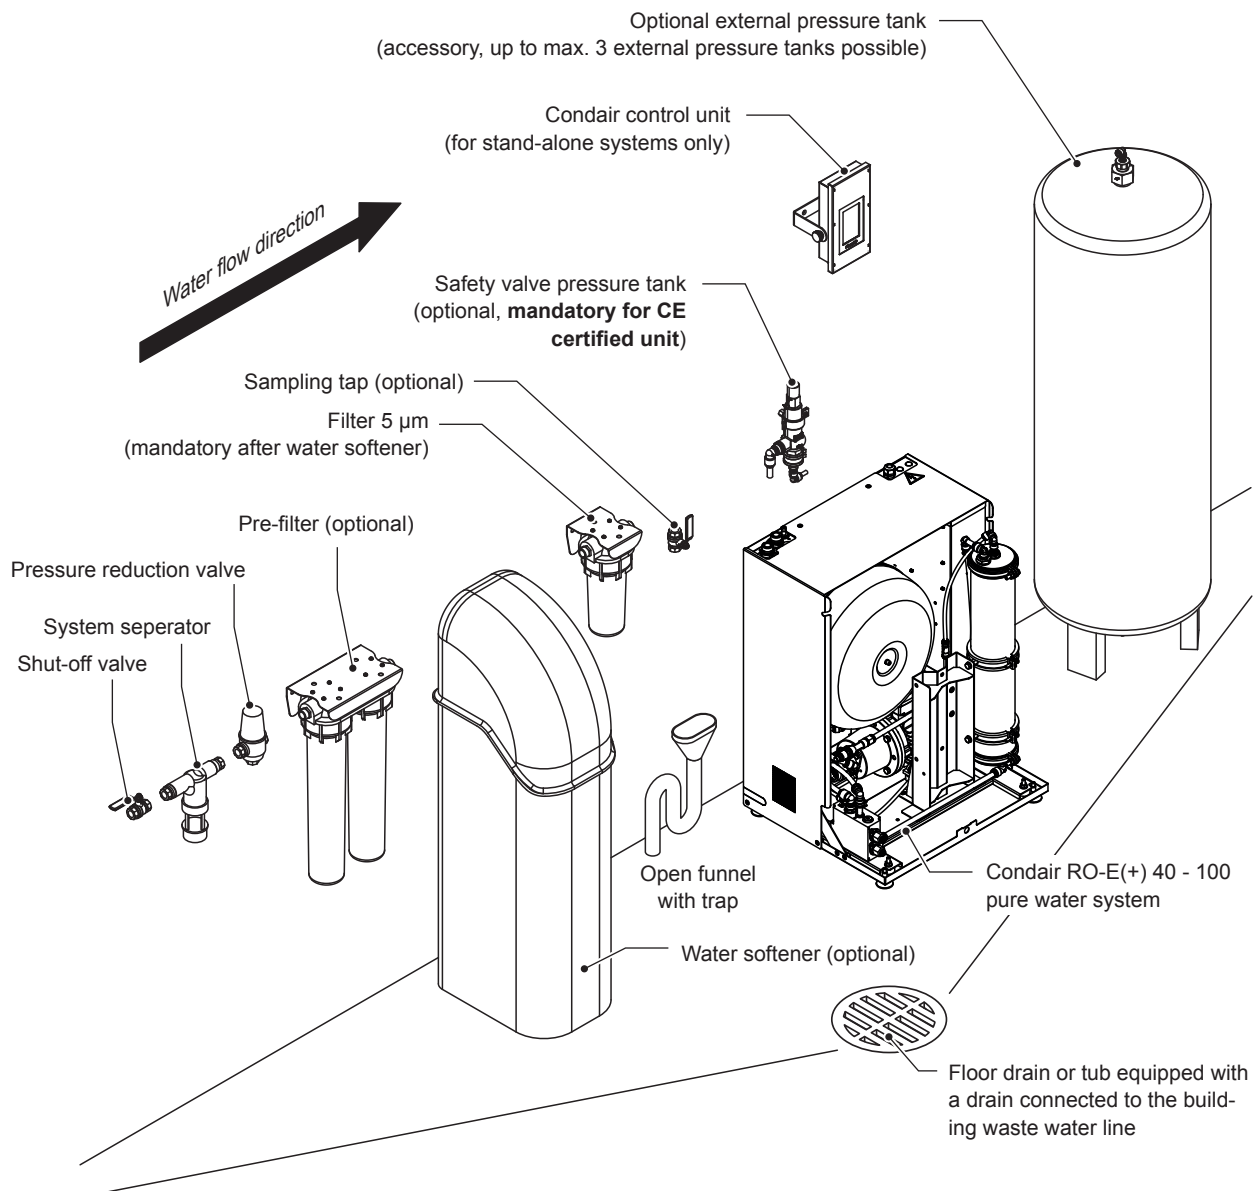
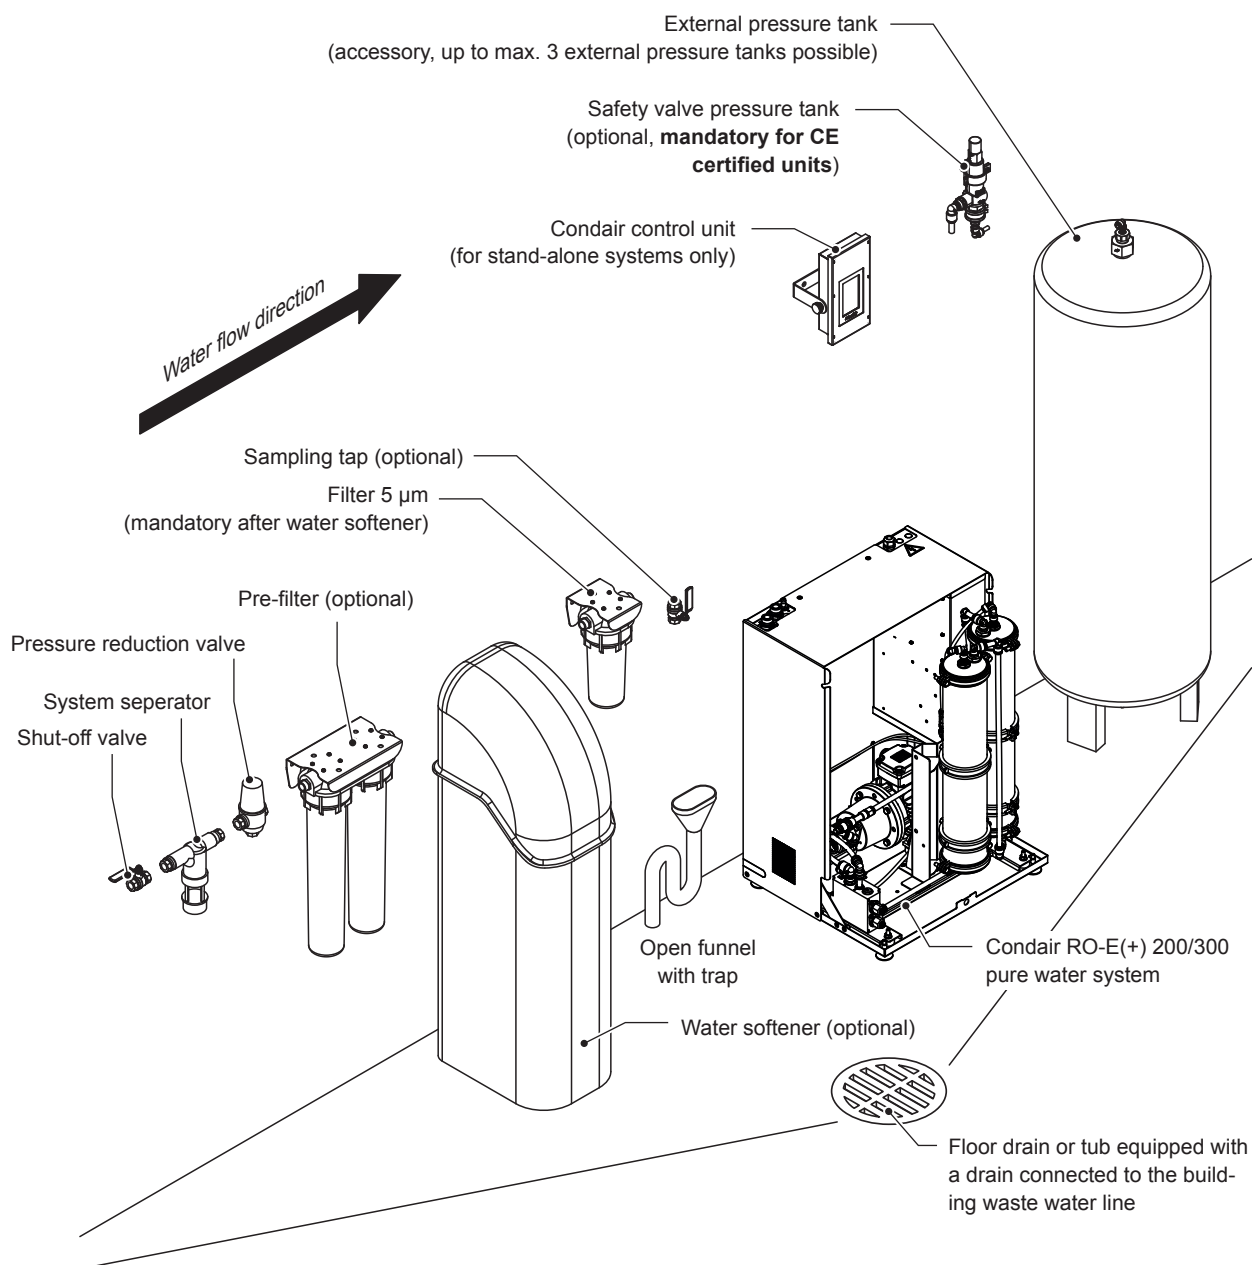

Fig. 3: Positioning of the system components for Condair RO-E(+) 40 - 100 pure water systems with or without optional external pressure tank
Fig. 4: Positioning of the system components for Condair RO-E(+) 200 - 300 pure water systems with external pressure tank
- The components upstream of the Condair RO-E(+) pure water system (shut-off valve up to and including test cock) must be installed in the sequence shown in Fig. 3 and Fig. 4.
approx. 150 mm above the unit (left of the centre of the unit), see Fig. 3
approx. 150 mm above the (first) external pressure tank, see Fig. 4